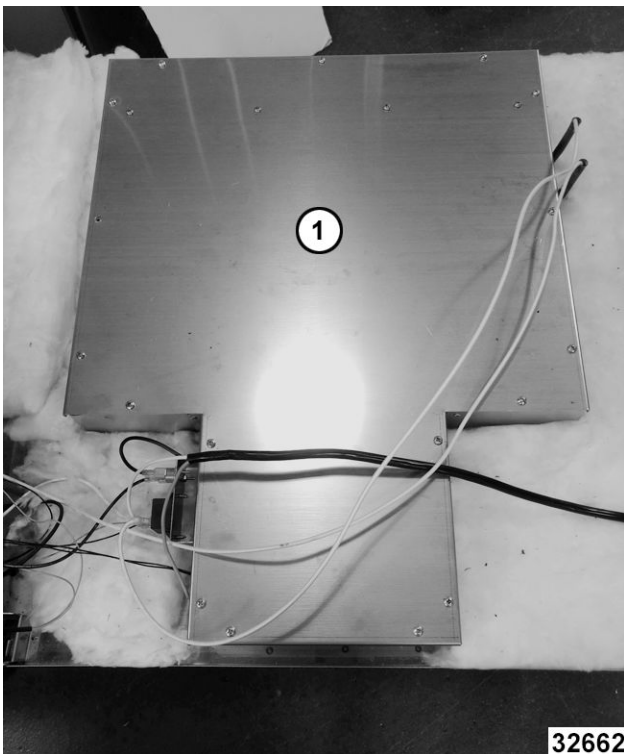

Fig. 12
4. Remove inside access cover (1, Fig. 12).